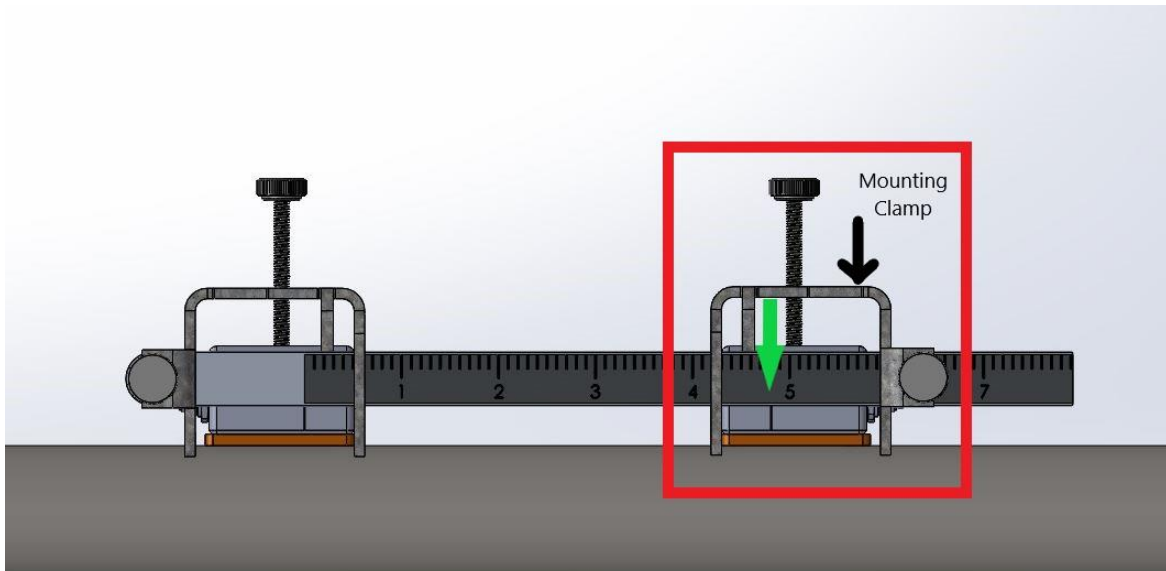

Figure 2-12. Spacing Locating Point on Small Rail/Fixture System*
4. Loosen the set screw on the rightmost transducer mounting clamp and using the scale attached to the front rail, slide the clamp so that the middle of the bracket is close to the location determined by the flow meter. See Figure 2-12 for reference. Slightly tighten the set screw that was loosened in the previous step so that the clamp does not being moving when the transducer is placed inside. **Note:** the leftmost mounting clamp does not need to be moved as it is already in the correct position.
7. Place the transducers in the left and right mounting bracket of the rail/ fixture system. Once the rightmost transducer is fitted, move the clamp so that the scribe line on the transducer is placed at the flow meter's determined location. Refer to the green arrow in Figure 2-12 for this locating point. Tighten the set screw completely. **Note:** the transducer in the left mounting bracket does not need to be moved as the scribe line is already aligned with the scale zero.